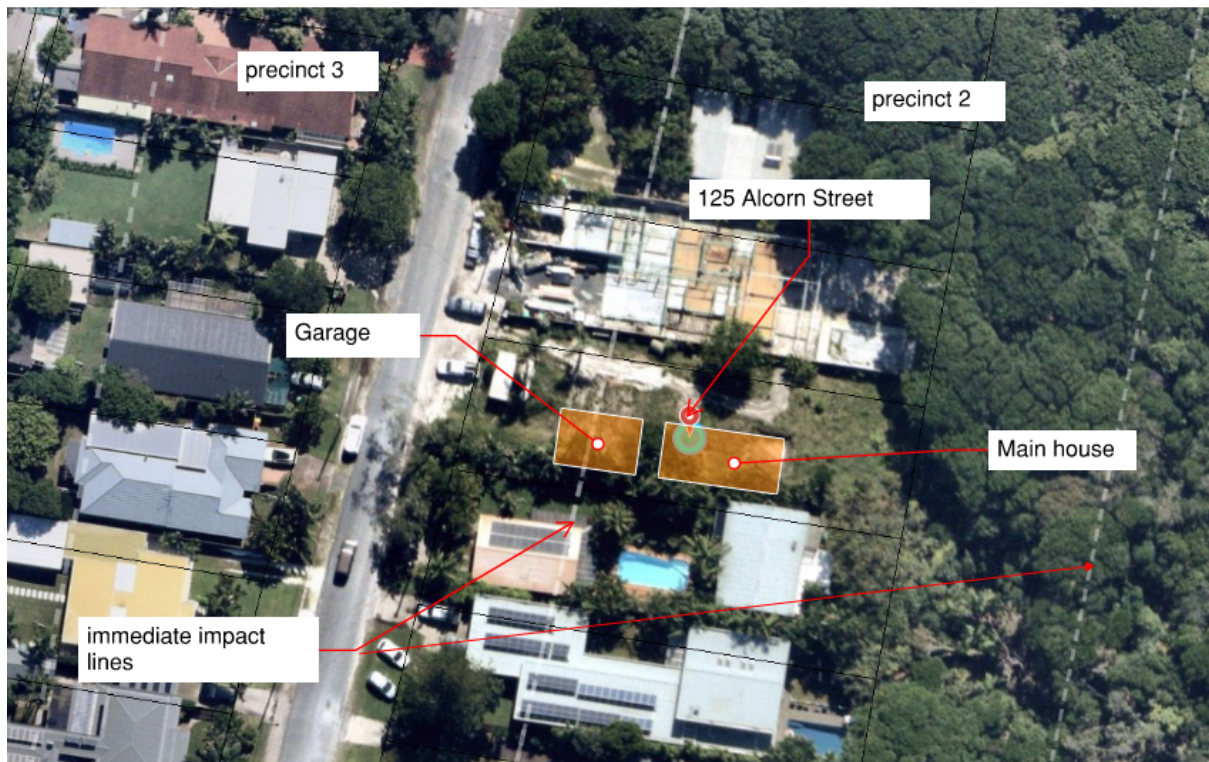

Fig 1 Displays proposed site lot 125 Alcorn Street
The structure is located outside the 20 metres erosion escarpment line and sits within 'Precinct 2' in accordance with part J of the Byron Development Control Plan 2010. for precinct positions see fig 1 and reference Refer Reference THOSE Architects job no 21011
- b. Access is from the front of the property on Alcorn Street, the vehicles will approach from the south. See fig 1